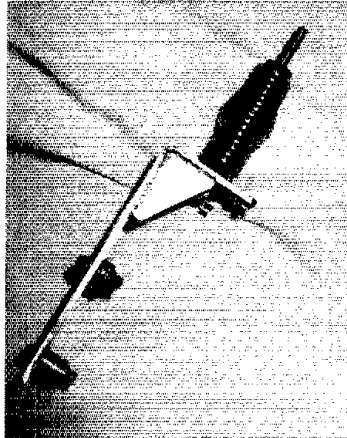
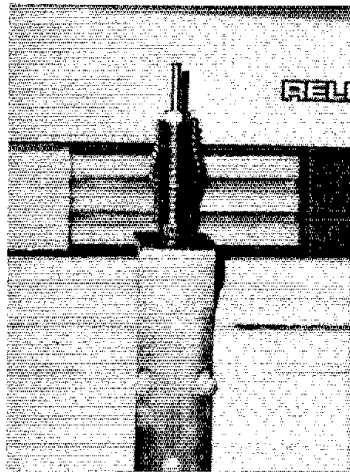

Fig. 1 — Mobile-antenna mounting bracket used by W8HS. Note the spacers used to hold the bracket vertical on the bumper.
Fig. 2 — Mounting bracket bolted to the bumper of the author's car.
□ Immediately after purchasing a new 1982 Plymouth Reliant, I set about the task of turning it into a "ham shack" on wheels. The first job was to install the antenna. The bumper on my new car consists of a rather thin steel frame, coated with rubber. To compound the problem, the energy-absorbing system means that the bumper is insulated from the car chassis. Not much here to provide a ground plane for the antenna system. After connecting four heavy, braided ground straps between the bumper and car body, I fabricated a mounting bracket from 1/4-inch-thick steel (Fig. 1).¹ This is fastened to the bumper by means of three bolts, which go through holes drilled in the bumper (Fig. 2). Cylindrical spacers are used to hold the bracket vertical.